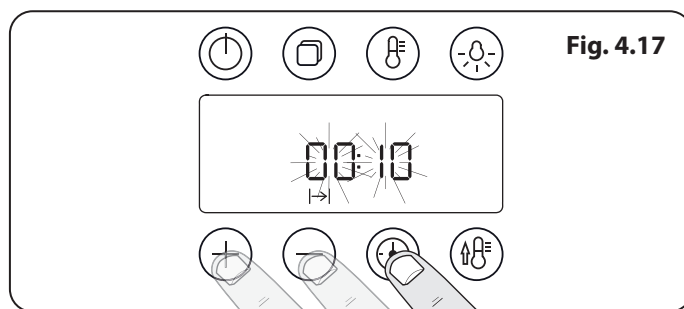

Fig. 4.17
2. Touch and hold the 'timer' button until the cook period symbol [⌚] is displayed (**Fig. 4.17**). Set the hours using the [+] or [-] buttons.
2. Touch and hold the 'timer' button until the cook period symbol [⌚] is displayed. Set the hours using the [+] or [-] buttons. Tap the timer button again to set the minutes using the [+] or [-] buttons (**Fig. 4.17**).